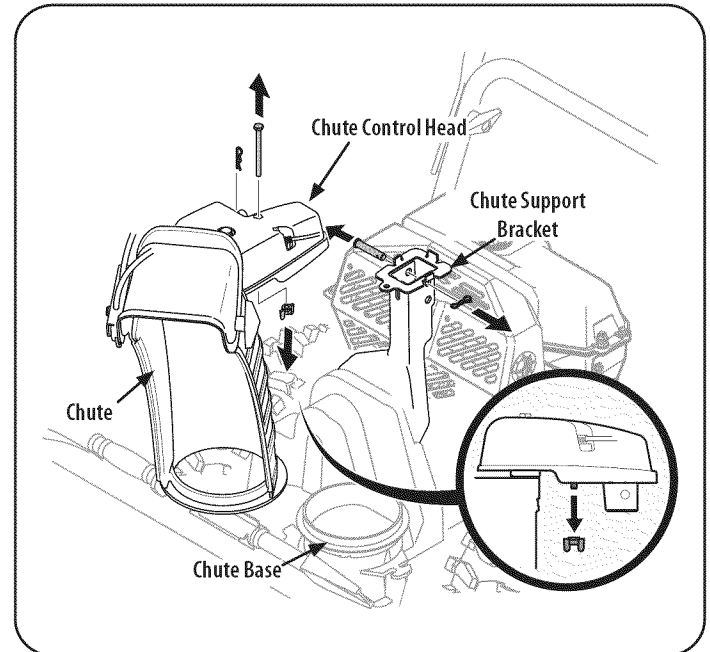

Figure 2
2. Remove cotter pin, wing nut, and hex screw from chute control head and clevis pin and bow-tie cotter pin from chute support bracket. See Figure 2.